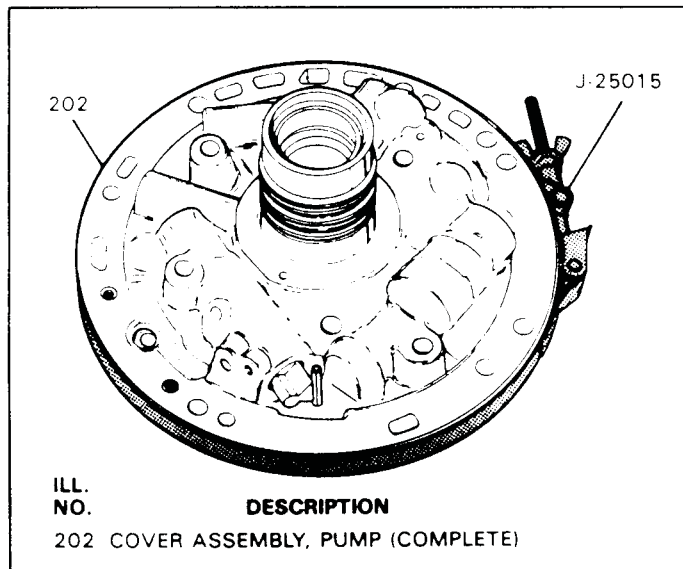

Figure 100
**IF YOUR UNIT HAS THIS ORIFICE PLUG (222) YOU CANNOT HAVE BALL CAPSULE IN THE TURBINE SHAFT.**
11. Place the oil pump body over a hole in the work bench as shown in Figure 100.
12. Set the pump cover on top of the pump body and align the bolt holes (See Figure 100).
14. Install the alignment band J-25015 over the pump assembly, as shown in Figure 100, and tighten the adjusting screw to align pump halves.
19. Remove the alignment band from the oil pump assembly (See Figure 100).